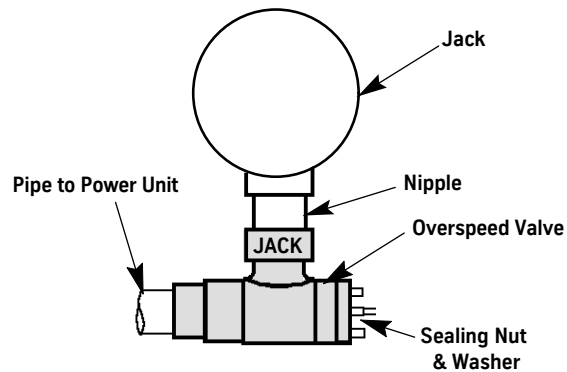

Figure 29 - 2" Overspeed Valve (90° shown, in line available)
1. Install the overspeed valve within 12" of the jack. See Figure 29 for proper orientation of the valve.